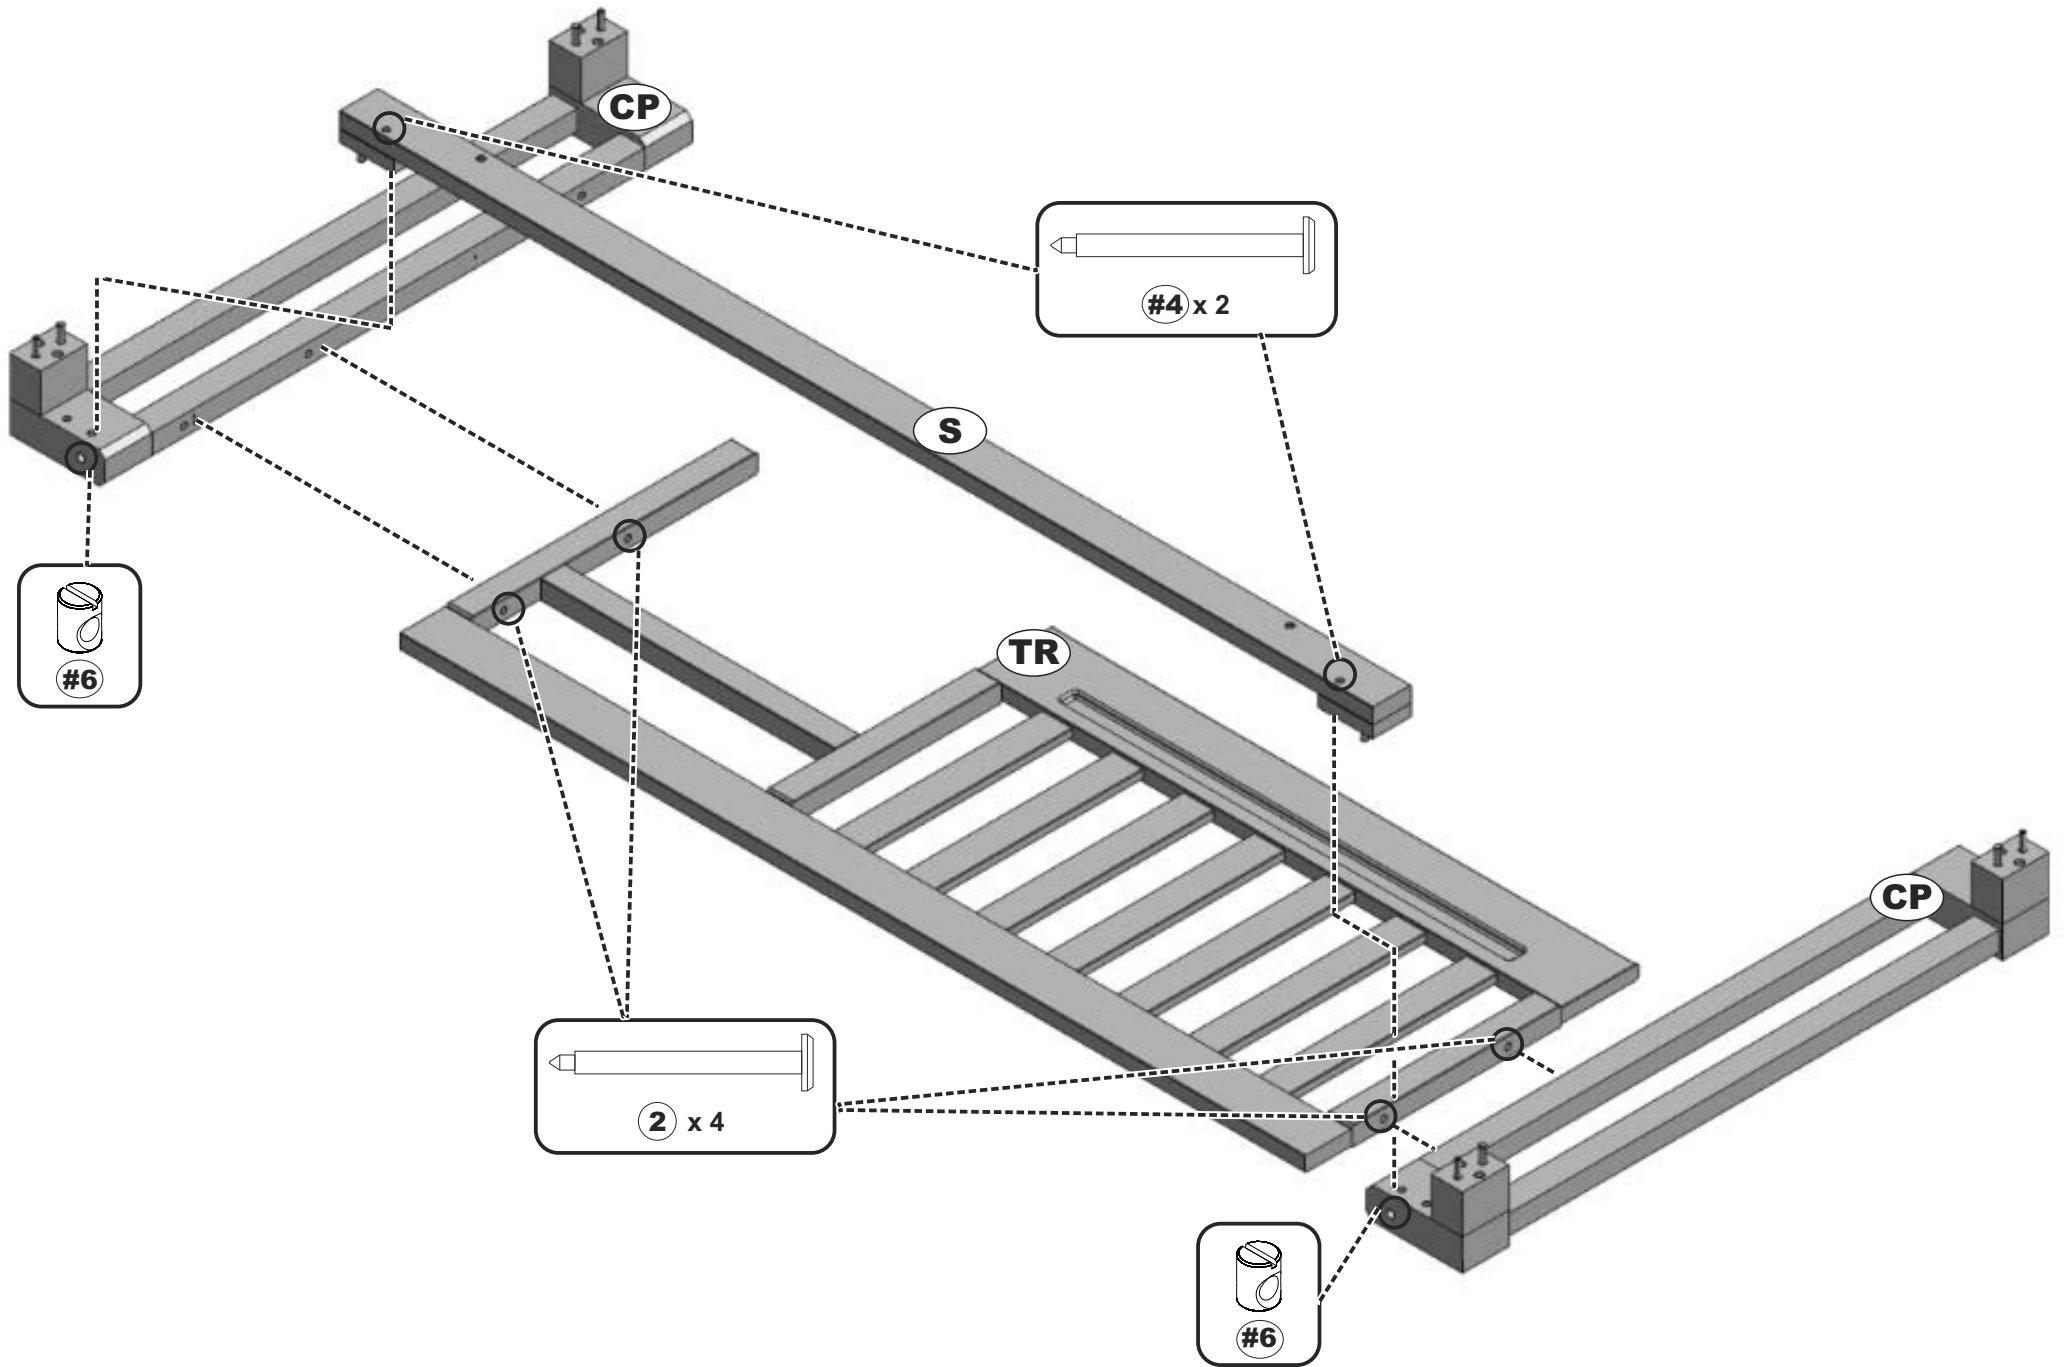

FIGURE 1d
STEP 2d (Two adults are required to complete this step, see Figures 1d & 2d for details)